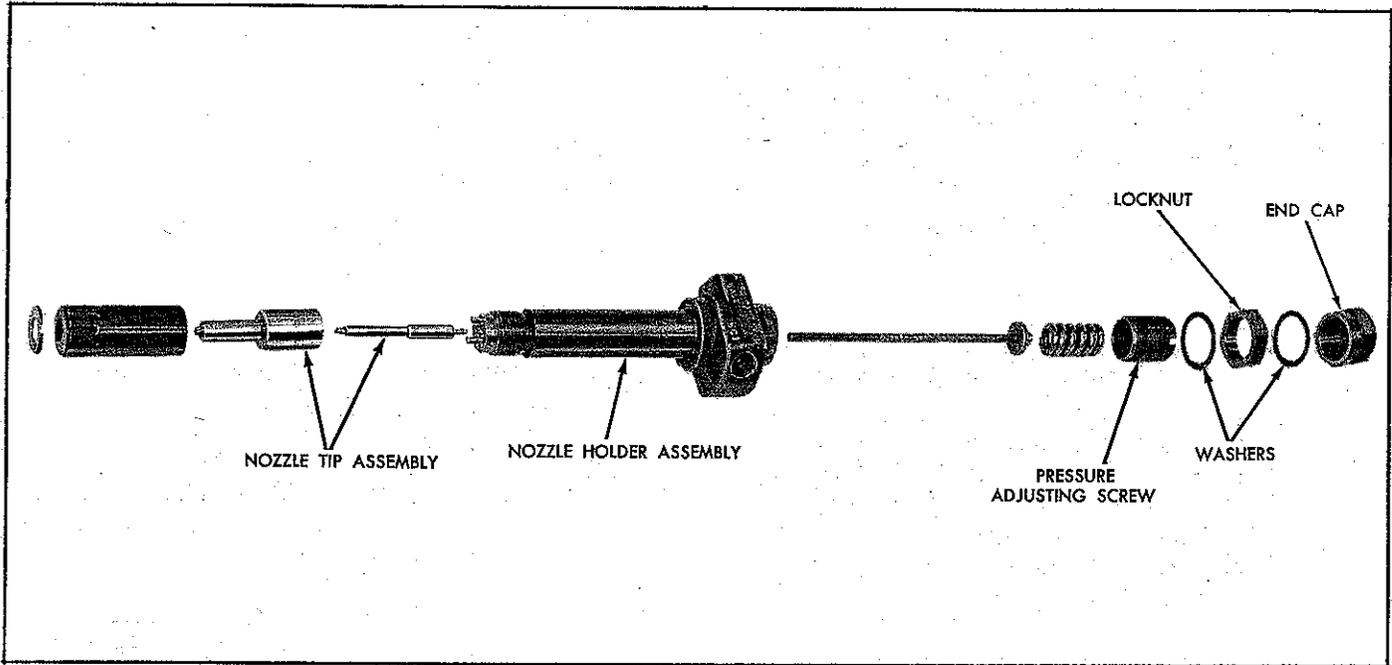

Figure 35
- (a) The first type nozzle holder assembly, Figure 35, contains a screw adjustment for increasing or decreasing the nozzle valve opening pressure. By removing the cap from the upper section of the holder assembly and loosening the adjustment screw locknut, you can increase the valve opening pressure by turning the adjustment screw clockwise. By turning the adjustment screw counterclockwise, you decrease the valve opening pressure.